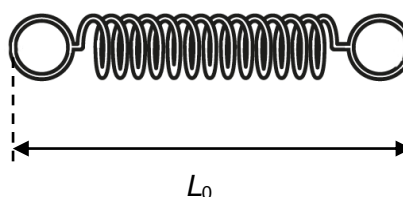

Fig. 2.2
- (ii) The length of the unstretched spring is L_0 , as shown in Fig. 2.2.